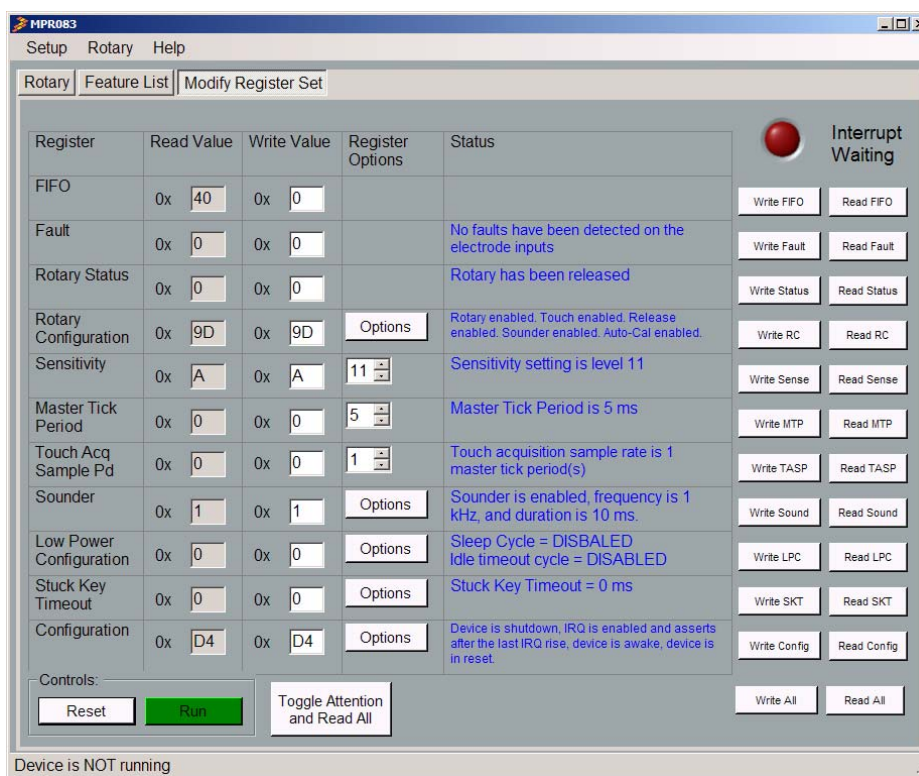

Figure 20. Modify Register Set
- 1) Select the “Touch Response Time: 2 s” button, the outline of the button and the text will turn red. When the sample rate is set to 2 s, the Master Tick Period register is set to 25 ms and the Touch Acquisition register is set to 20 master tick periods. To run the application at this touch response rate, select “Run”. Then select the “Rotary” tab and the Touch Response Time will change to 2000 ms (Figure 20).
6. Using the Modify Register Set Tab (Figure 20)